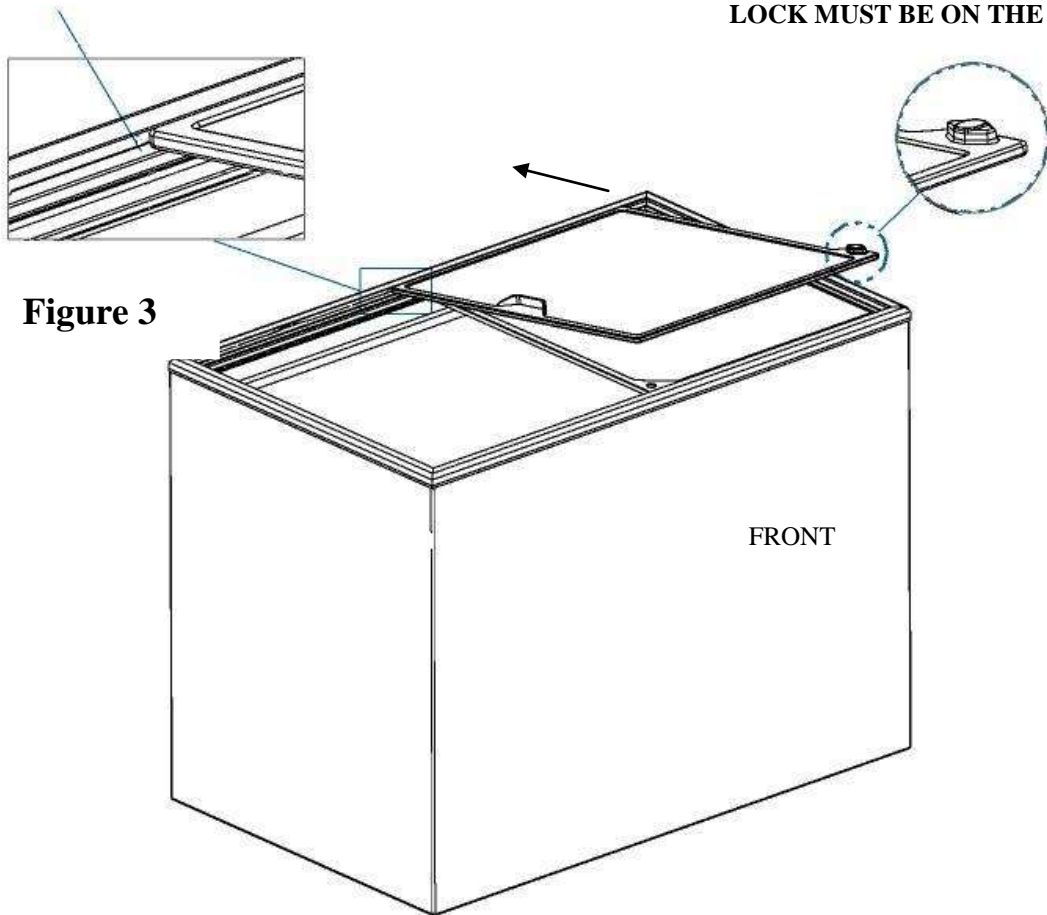

Figure 3
- Lay the top glass to the right side of the product, on the top of the bottom glass and mount the back part of the glass to the bottom channel by pushing it as in figure 3.